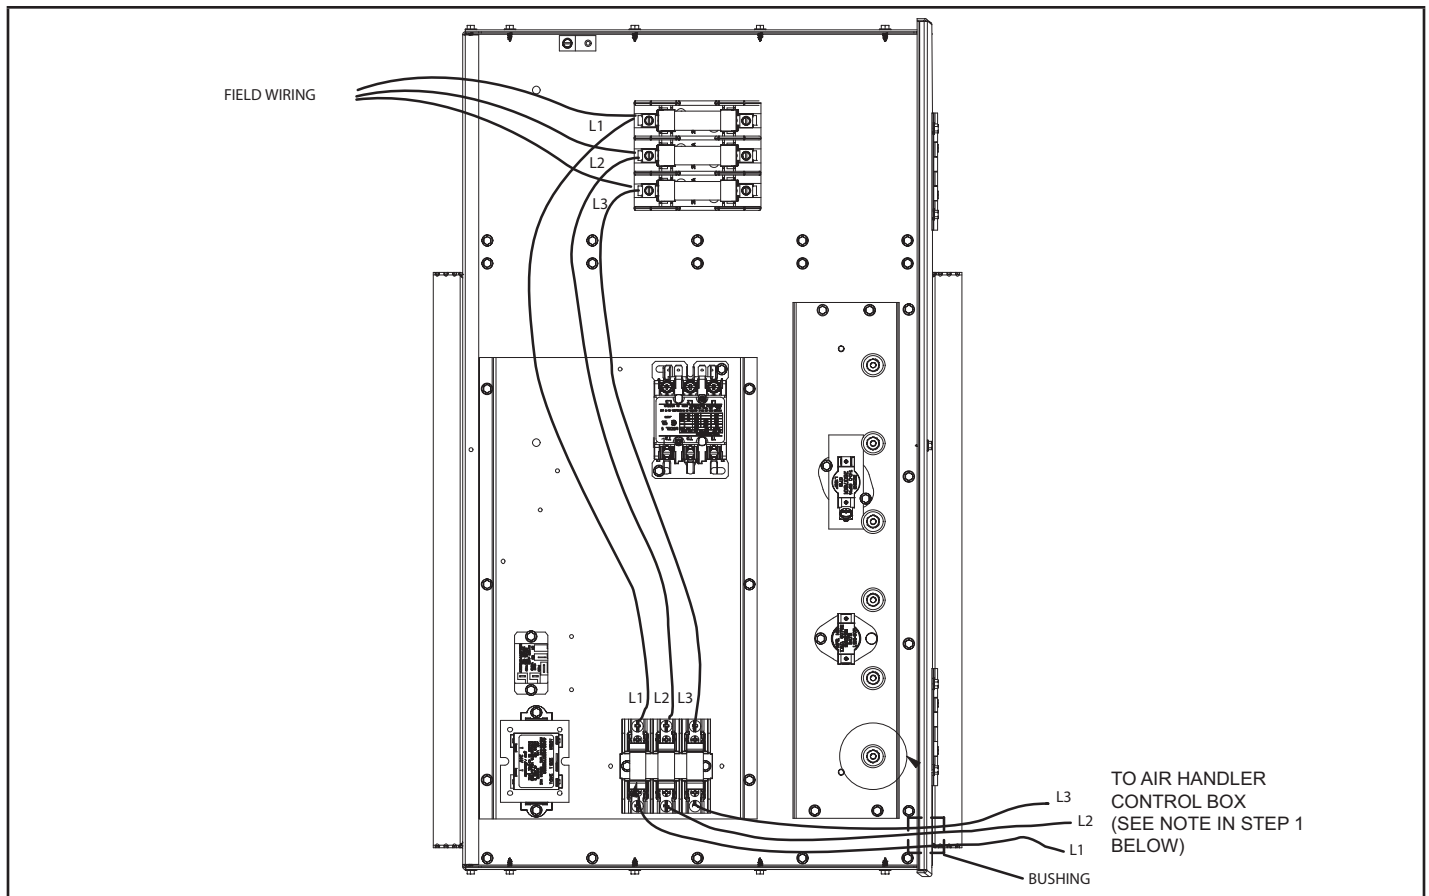

FIGURE 9. Typical Wire Routing
- 7 - Route the electric heat wiring through the grommet and knockout bushing to the coil blower control box as illustrated in figure 9.